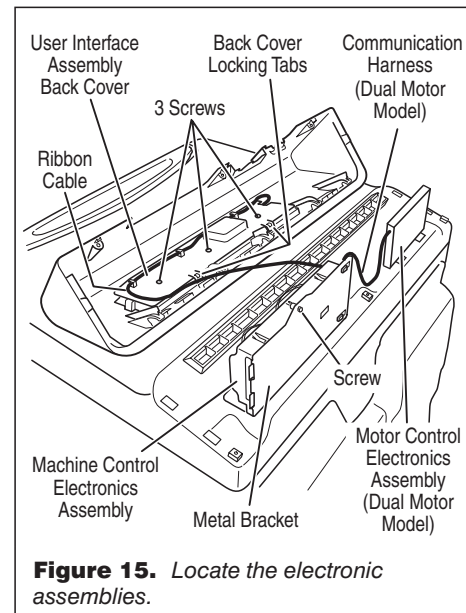

Figure 15. Locate the electronic assemblies.
There are up to three electronic assemblies; the machine control electronics, the motor control electronics (dual motor models), and the user interface electronics. See figures 15 below; and 16, page 12.
4. Remove the one screw holding the machine control assembly to the metal bracket. See figure 15.
3. Remove the wire connections to the motor control assembly. See figure 15.
3. Remove the wire connections from the user interface assembly, including the P5 ribbon cable. See figure 15.
5. The user interface assembly is held to the console insert panel by three screws and two locking tabs. After the screws are removed, lift each of the locking tabs to remove the back cover of the user interface assembly. See figure 15, page 11.